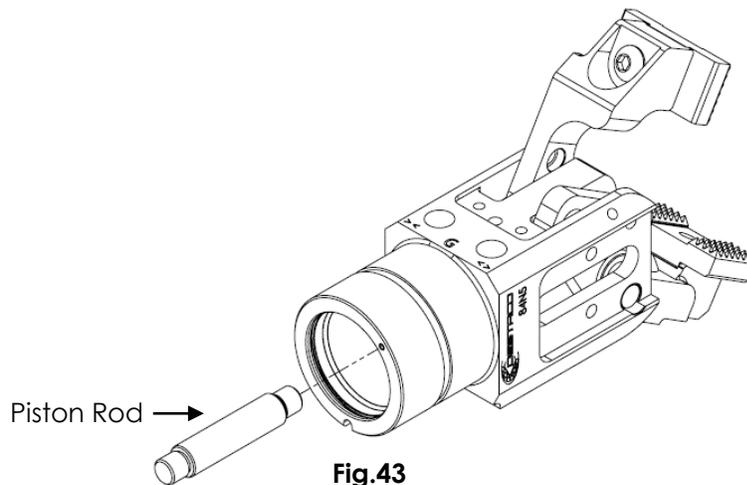

Fig.43
15. Check for proper seating of rod seal by inserting the piston rod and moving linearly (see Fig.43). The piston rod should move smoothly without restriction.